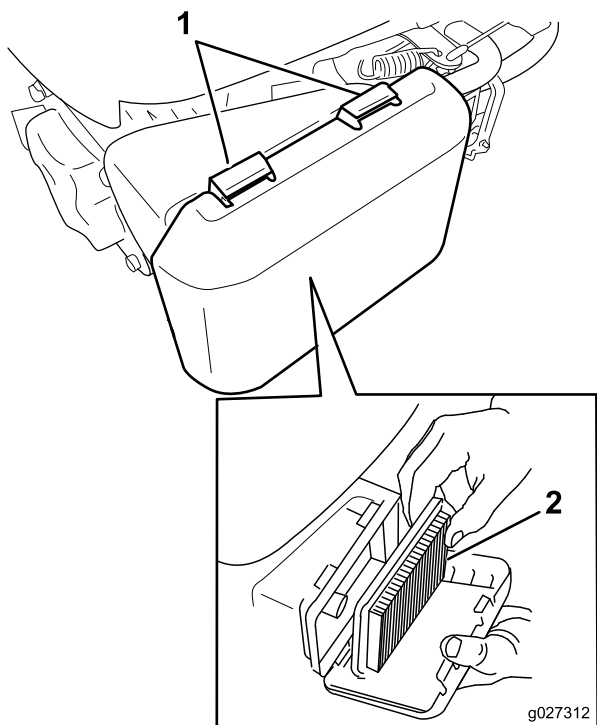

Figure 22
2. Press down on the latch tabs on top of the air-cleaner cover (Figure 22).